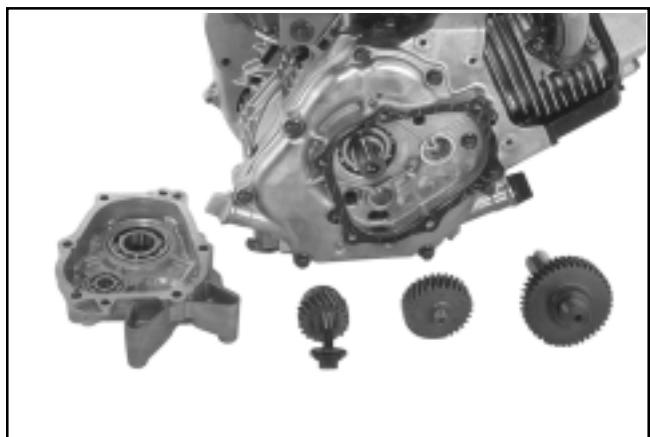

Figure 9-61. CS8.5-CS12 Disassembled Reduction Assembly.
- b. On CS8.5-12, remove the crankshaft gear, counter gear, and output shaft/gear assembly. See Figure 9-61.